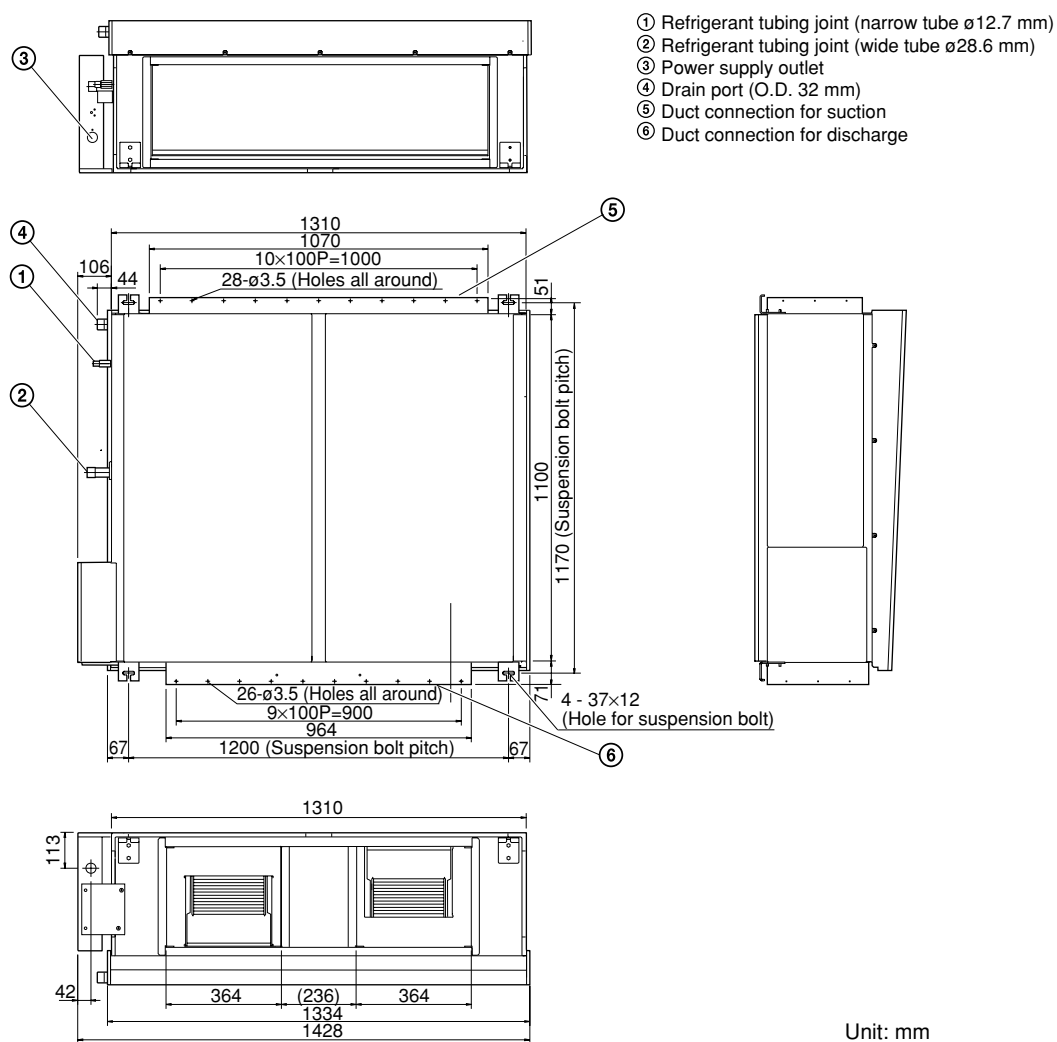

Fig. 3-114b
- Fig. 3-114b shows the detailed dimensions of the indoor unit.